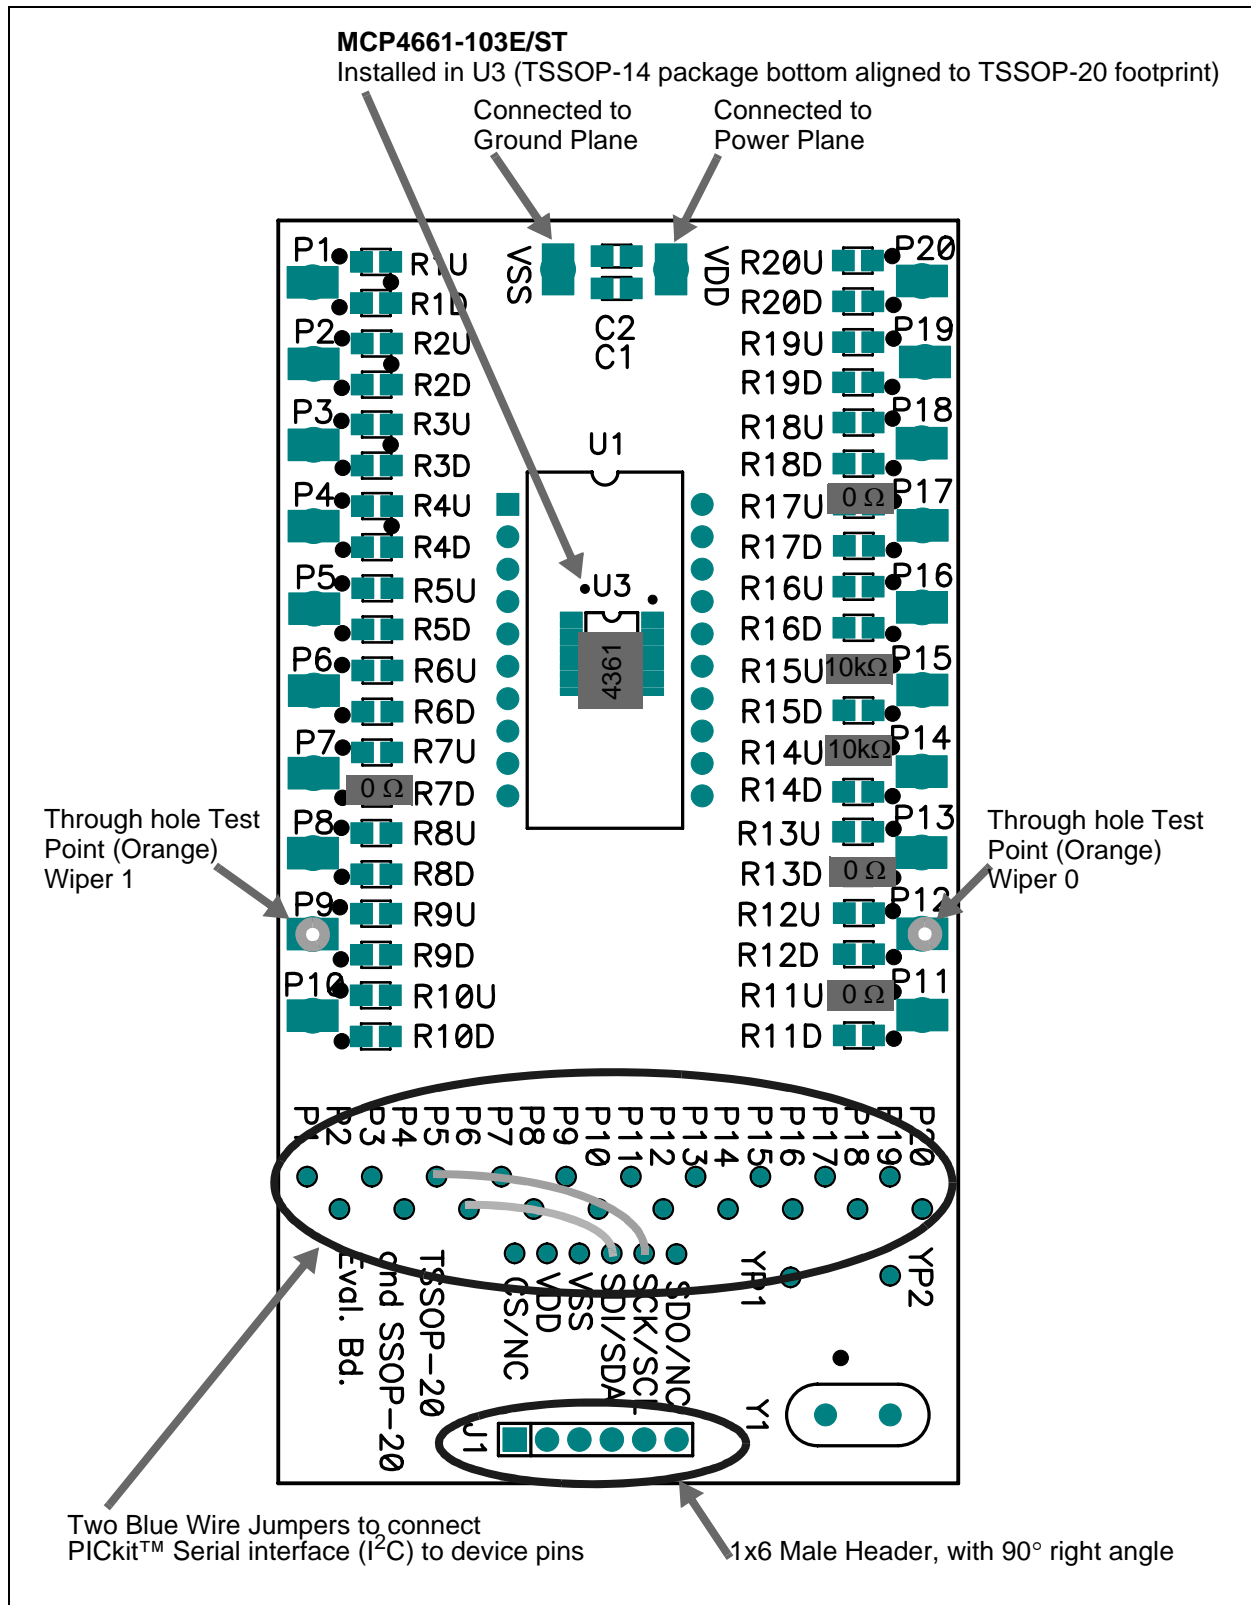

FIGURE 2-2: MCP46XXEV Evaluation Board Component Placement Using the TSSOP20EV Evaluation Board (Top).
Additional information on using the TSSOP20EV Evaluation Board PCB or for modifying the MCP46XXEV Evaluation Board is available in the TSSOP20EV User's Guide (DS51875). **Appendix A. "Schematic and Layouts"** has information on the PCB schematic and layout while Figure 2-2 shows components that are installed on the PCB.
- 0Ω resistors connect MCP4661 V_{DD} and V_{SS} signals to the appropriate power or ground plane (see Figure 2-2)
- 0Ω resistors connect MCP4661's Resistor Network 0 A terminal signal to power plane, resistor network is in a voltage divider configuration (see Figure 2-2)
- 0Ω resistors connect MCP4661's Resistor Network 0 B terminal signal to ground plane, resistor network is in a voltage divider configuration (see Figure 2-2)
Figure 2-2 shows the component layout of the MCP46XXEV Evaluation Board. This is a small four-layer board (3.9" x 2.1" (99.06 mm x 53.34 mm)). There are twenty-two connection points/pads that can use either through-hole or surface-mount connector posts.
| — | Blue Wire: J1 SDI/SDA via to P6 via J1 SCK/SCL via to P5 via | See Figure 2-2 |